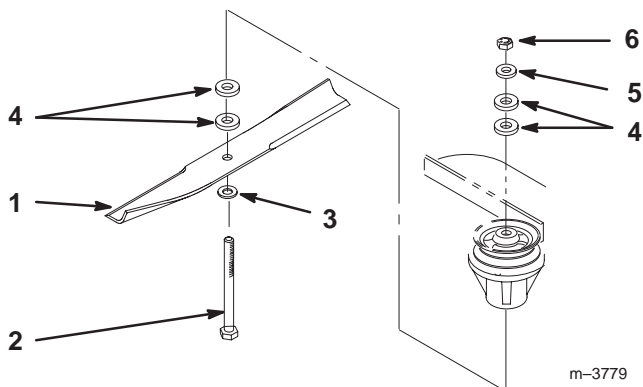

Figure 31
2. Remove the nut, blade bolt, cone washer, blade, spacers, and thin washer from the spindle (Fig. 31).
1. Place the blade onto the bolt and over the cone washer. Select the proper number of spacers for the height-of-cut and slide the bolt into the spindle (Fig. 31).
2. Install the remaining spacers and secure them with a thin washer and a nut (Fig. 31).